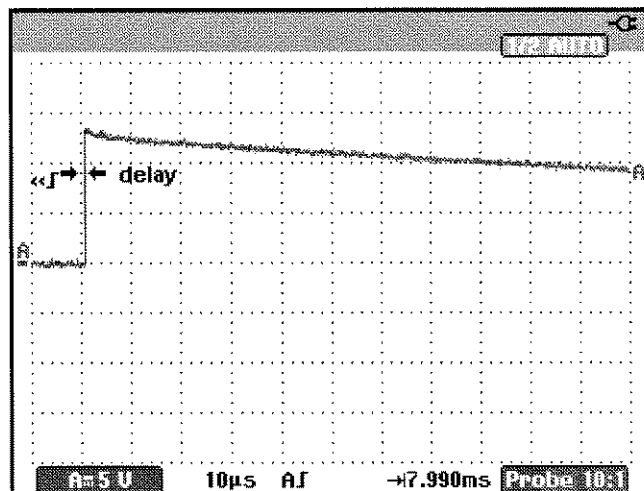

Figure 4-6. Time Base Verification
5. Examine the rising edge of the time marker pulse at the height of the trigger level indicator top. Verify that the rising edge is at the second grid line from the left. The allowed deviation is ± 3 pixels, see Figure 4-6.
9. Examine the rising edge of the time marker pulse at the vertical height of the trigger level indicator top. Verify that the rising edge is at the second grid line from the left. The allowed deviation is ± 3 pixels, see Figure 4-6.